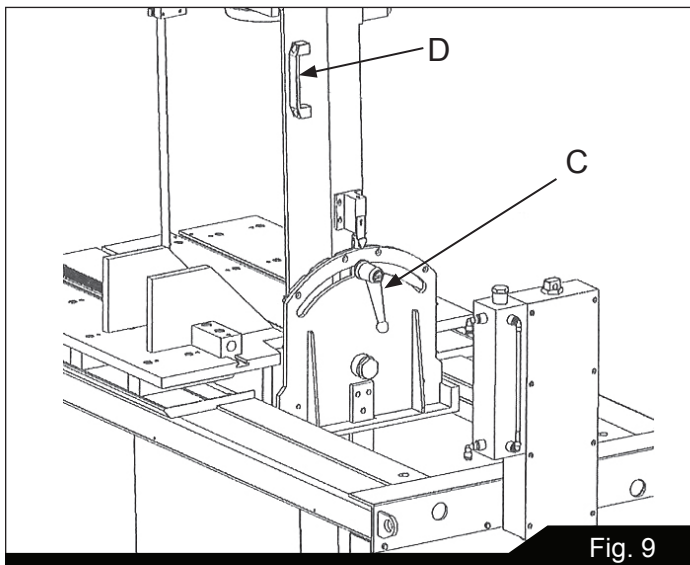

Fig. 9
2. To adjust the cutting head angle, turn the lock handle counterclockwise (CCW) (C, Fig. 9).
3. Holding the cutting head handle, tilt the head to desired angle (D, Fig. 9).
4. When the desired angle is obtained, turn the lock handle clockwise (CW) to secure the cutting head for operation.